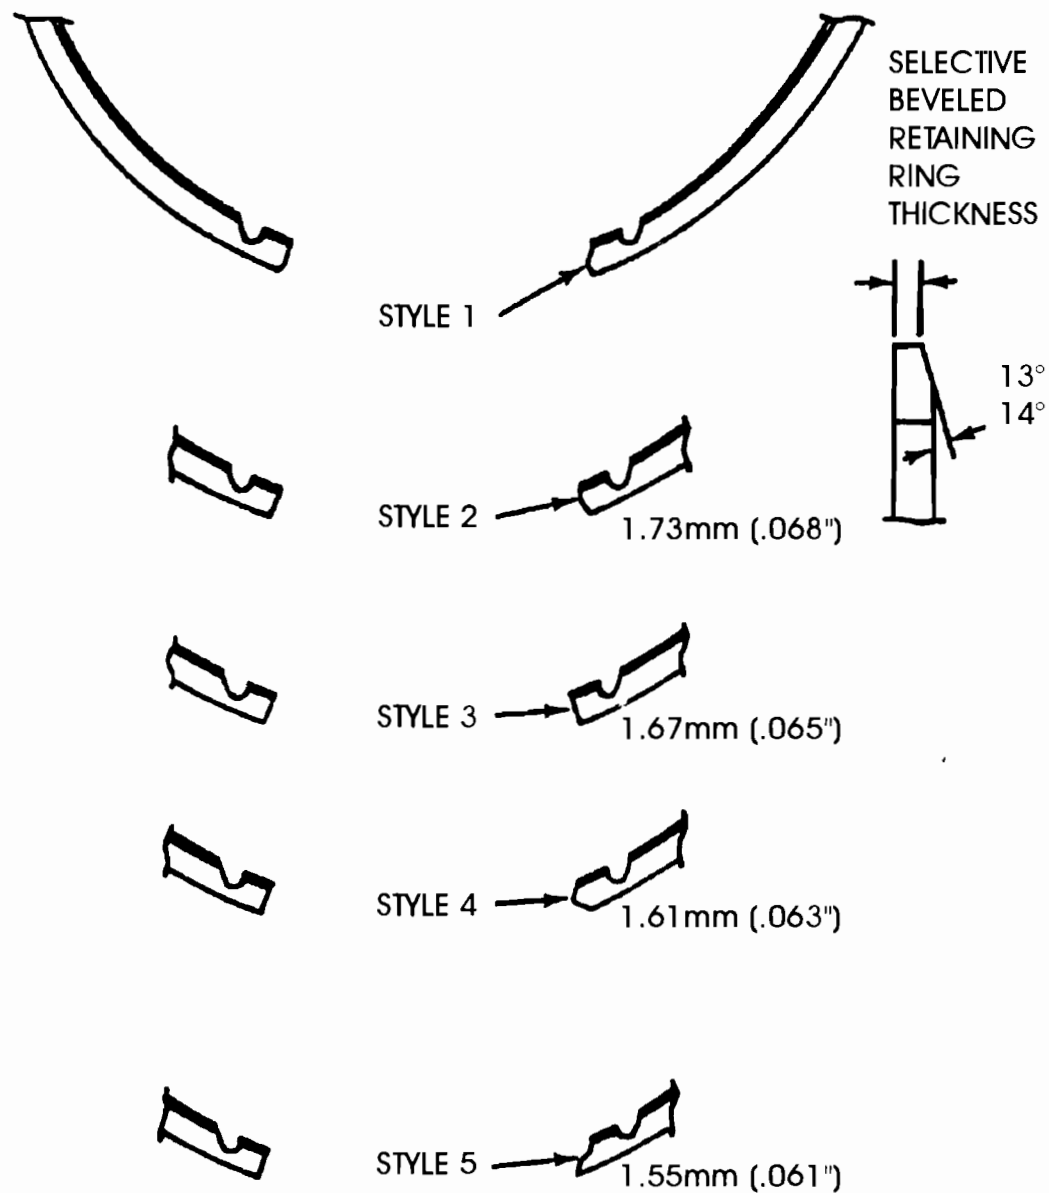

Figure 17
The AX4N transaxle is *similar* to the AXOD-E and found in *some* 1994-1995 Taurus and Sable, and found in *all* 1995 Lincoln Continal. The rear planetary support in this unit is retained with a *selective* beveled snap ring. The configuration of the end of the snap ring identifies the difference in thickness between the five selective snap rings (See Figure 17).
1. Inspect for "Notches" on the beveled snap ring (See Figure 17). If notches are present, use retaining pliers (T95P-77001-AH) to remove and install the selective beveled snap ring.
3. After removal, identify the style beveled snap ring using Figure 17 and record the selective thickness of the beveled snap ring, and then discard the original beveled snap ring.